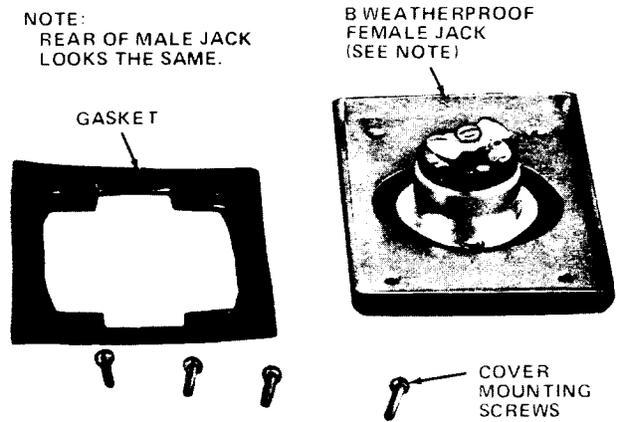

Fig. 7—B Weatherproof Male Jack
(f) Jack, Male, Weatherproof, B (for use on recreational vehicles and boats, Fig. 7, 8, 9, 10, 14, and 15).
2.08 The B weatherproof male jack (Fig. 7, 8, 9, and 10) mounts in the B outlet box on the recreational vehicles or boats and is compatible with the female plug of the B weatherproof cord to provide telephone service. The jack has a spring-loaded hinged cover to make it weatherproof when not in use. Three screw terminals stamped R, T, and GR on the rear of the jack provide connection to ring, tip, and ground, respectively.
- One B weatherproof male jack mounted on recreational vehicle (Fig. 7)